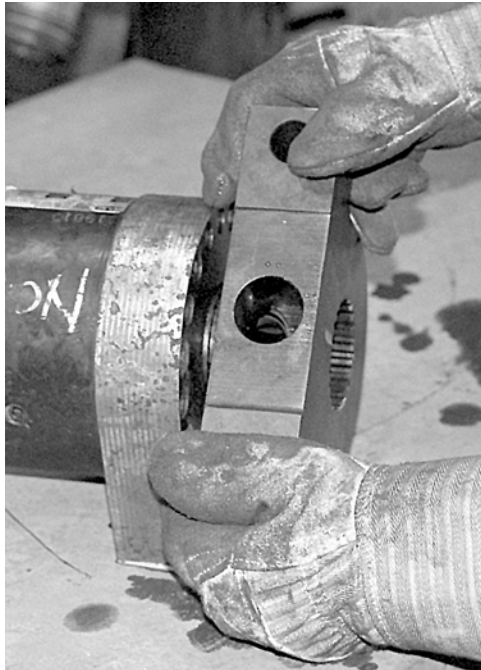

Figure 5-12. Removal of Rotary Actuator Torque Bracket
10. Remove the rotary actuator torque bracket (see Figure 5-12).